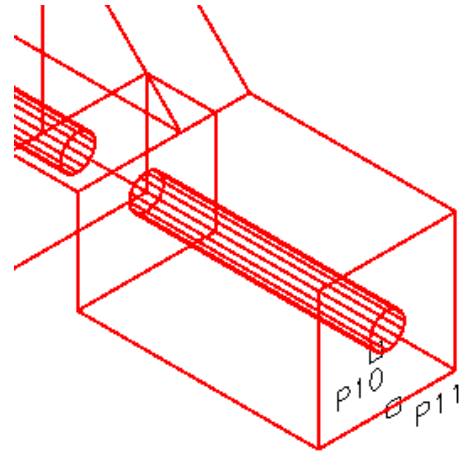

Figure Step 11A
Step 11 Click the Delete Faces icon and complete the command shown below to delete a the hole in the model. (Figure Step 11A, 11B, and 11C)